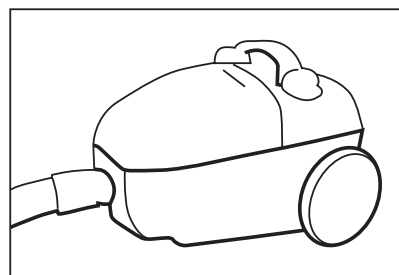

Fig. 4
2. Insert the flexible hose into the hose socket until a click is heard (fig. 4).